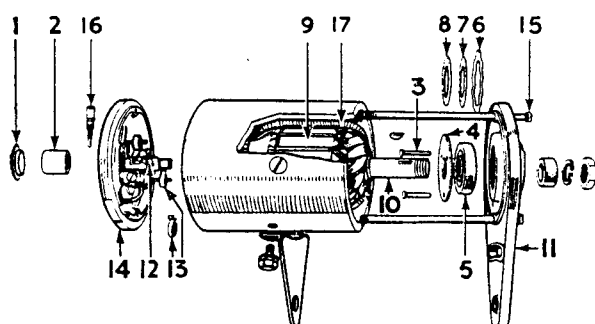

FIG. 6
**Note :** The latest type of end bracket is not an integral welding, and the support bracket must be removed by unscrewing three setscrews before the withdrawal of the through bolts (15), which are illustrated in Fig. 6.
3. When replacing field coils (17) Fig. 6, an expander should be used so as to press the pole shoes into position. A few taps on the outside of the dynamo housing with a copper faced mallet will assist the expander to seat the pole shoes. When the pole shoes are finally home, fully tighten the fixing screws and caulk to lock them in position.
1. Remove protective cap (1) Fig. 6, at the outside end of the bracket.
1. Knock out the three rivets (3), Fig. 6, which secure the bearing retaining plate (4) to the end bracket and remove the plate.
2. Press the bearing (5) out of the end bracket and remove the corrugated washer (6), felt washer (7) and oil retaining washer (8).
Before refitting the dynamo to the tractor, unscrew the lubricator (16), Fig. 6, on the end of the dynamo, lift out the felt pad and spring, and half fill the lubricator with H.M.P. grease.